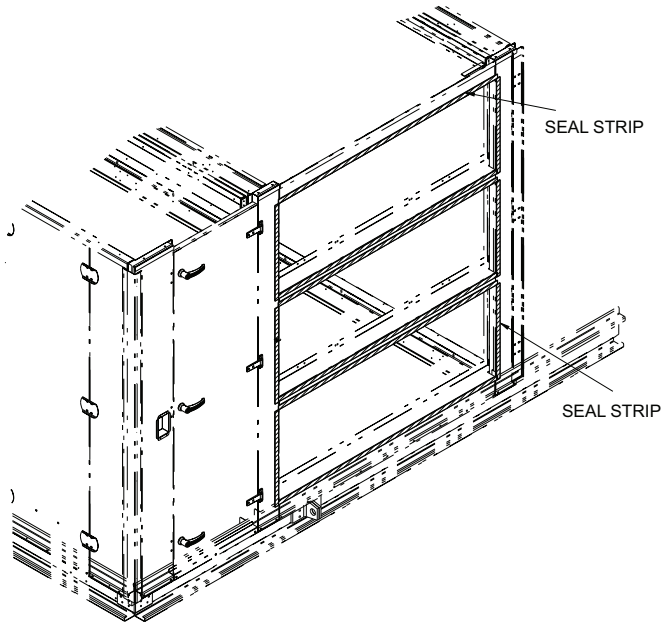

Fig. 25 — Seal Strips
3. Apply seal strip to the unit. Strip should extend around entire openings (see Fig. 25).